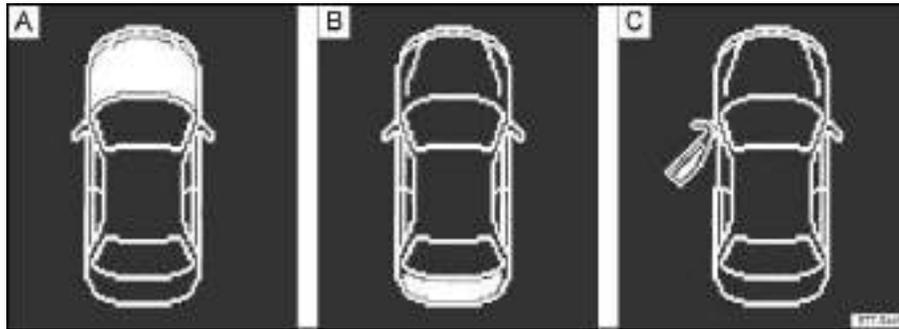

Fig. 12 In the instrument cluster display: A: Open engine hood, B: Open luggage compartment lid, C: Open driver door.
- Open door, engine hood, or luggage compartment lid ⇒ fig. 12.